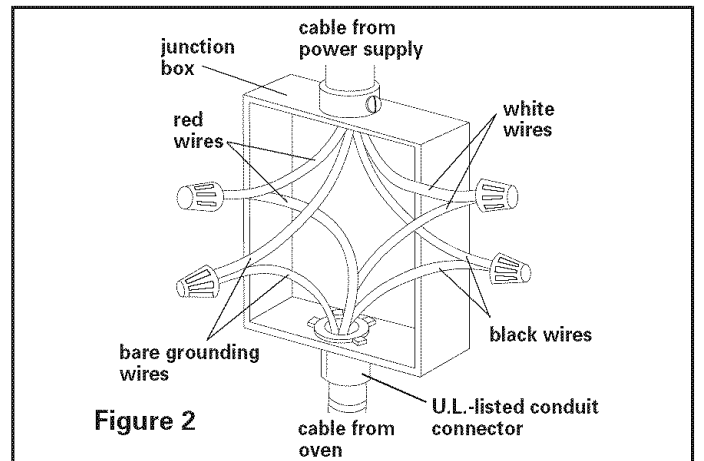

Figure 2
8. Connect white oven cable wire to neutral (white) wire in junction box. See Figure 2.
9. Connect the bare ground oven cable wire to a grounded wire in the junction box. See Figure 2.
9. Connect the bare ground oven cable wire to the green ground wire in junction box. **Do Not connect bare ground wire to neutral (white) wire in junction box.** See Figure 2.